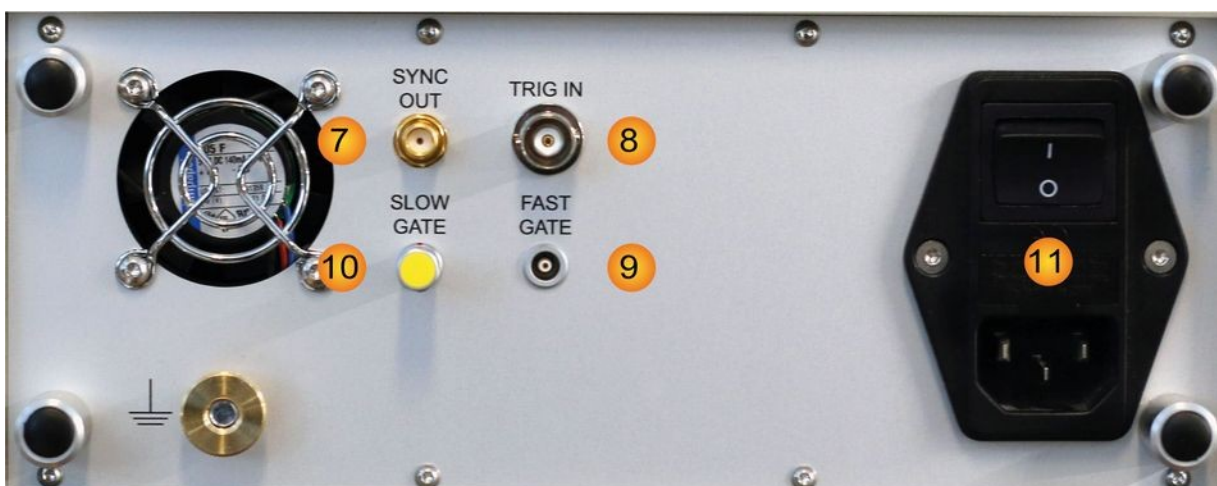

Fig. 9: Sepia PDL 810 – back panel
The synchronization output of the laser driver (7 in Fig. 9) delivers a synchronization signal along with each laser pulse. This synchronization output is particularly helpful in independent operation. It can be connected to the detection electronics such as, e. g., a TCSPC unit from PicoQuant. A suitable LEMO-SMA or LEMO-BNC adapter cable can be obtained from PicoQuant.
- The Sepia PDL 810 can be triggered externally by a suited NIM compatible trigger signal connected to the trigger input **TRIG. IN** (8 in Fig. 9).
To use this gating mechanism, connect a low-active TTL signal to the "FAST GATE" connector (9 in Fig. 9). The input has an internal pull-up resistor to "High" level.
The slow gate input is isolated by an opto-coupler and a current must be fed into the input to activate the laser. When this gating function is not used, the yellow LEMO connector stub (included with the device) must be plugged into Slow Gate connector (10 in Fig. 9) to keep the laser always active.